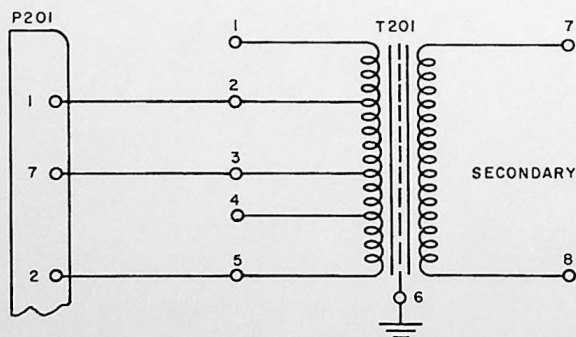

Figure 2-6. 356A-1 Preamplifier, Connections for 250-Ohm Input
- c. Rewire the 356A-1 Preamplifiers to be used as booster amplifiers for 250 ohms input impedance as shown in figure 2-6.